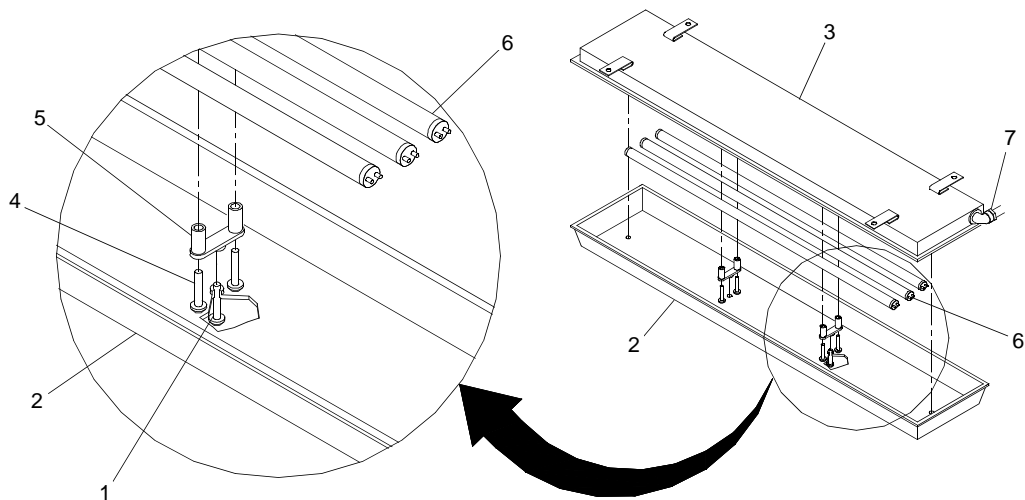

Figure 2. Fixture Cover
2. Loosen four screws (figure 2, item 1) securing cover (figure 2, item 2) to fixture base (figure 2, item 3).
3. Remove cover (figure 2, item 2).
4. Remove four screws (figure 2, item 4) securing cover standoffs (figure 2, item 5) to fixture base (figure 2, item 3).
5. Remove cover standoffs (figure 2, item 5).
6. Remove fluorescent lamps (figure 2, item 6).
7. Label and disconnect wiring and conduit (figure 2, item 7) from fixture base (figure 2, item 3).
10. Install wiring and conduit (figure 2, item 7) in fixture base (figure 2, item 3).